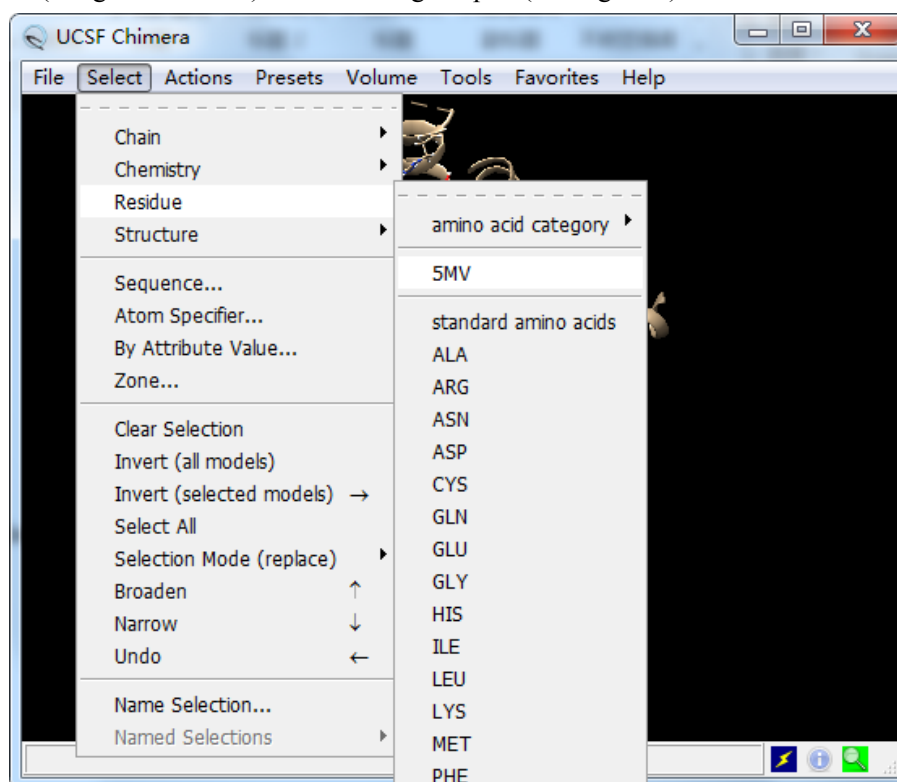
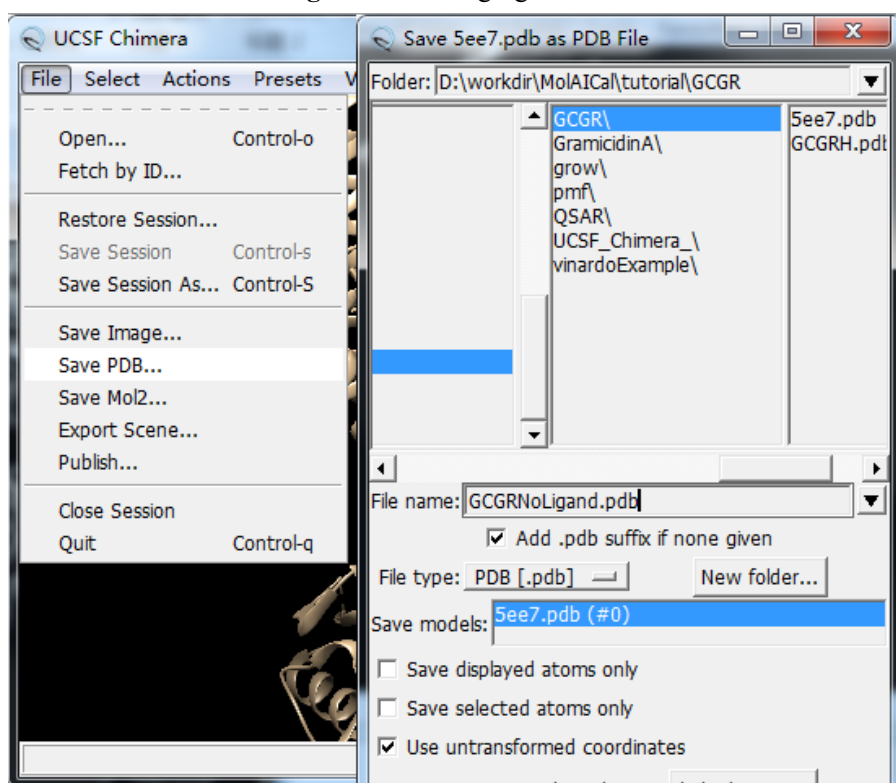

Figure 6. Selecting ligand 5MV.
Figure 8. Saving receptor coordinates as PDB file.
6. Selecting ligand 5MV and deleting it (see Figure 6 and 7). Save the coordinates of apo-state GCGR (unliganded bound): GCGRNoLigand.pdb (see Figure 8).